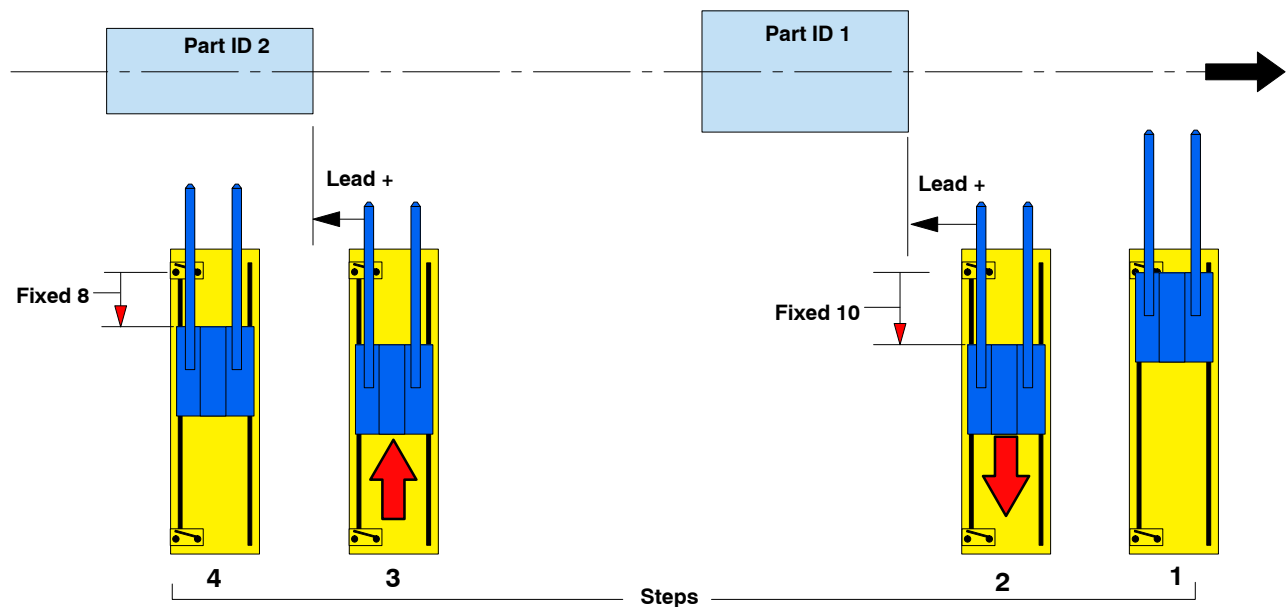

Figure 6-2 Fixed Positioning
1. See Figure 6-2. The positioner waits for parts. Its position depends on the configuration and the shift register contents.